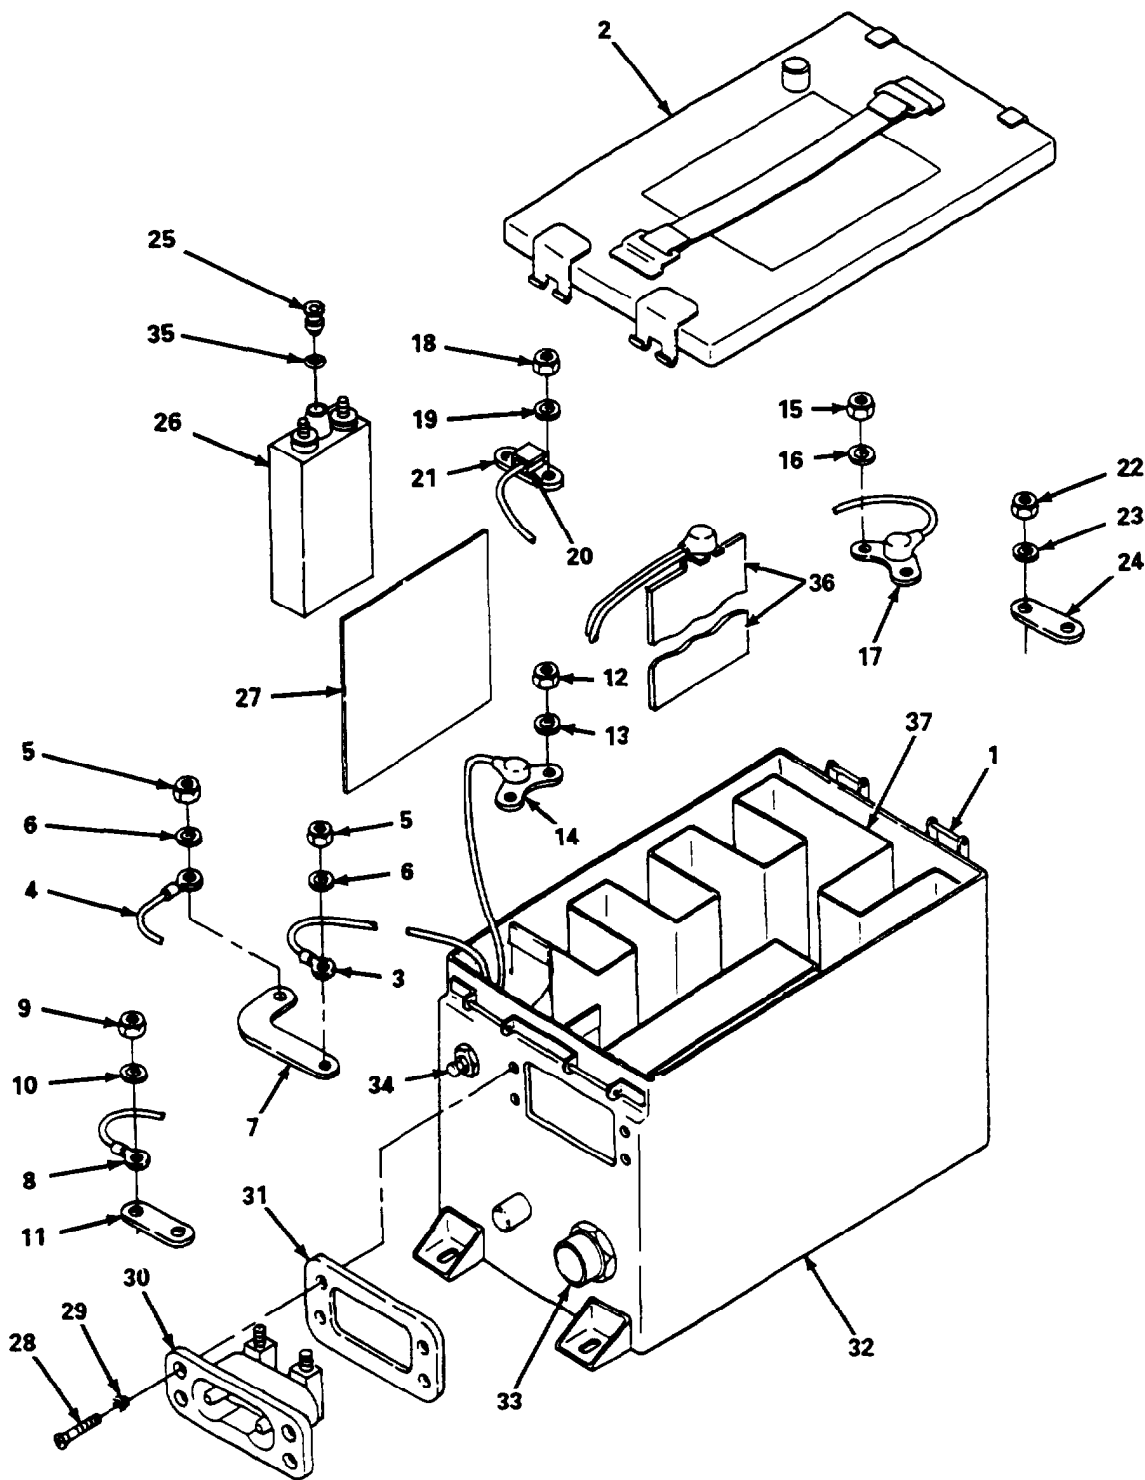

Figure 3-16. Battery BB-558/A Disassembly.
a. Disassembly/Reassembly (fig. 3-16).
- (1) Unsnap two latches (1) and open and remove cover (2).
- (2) Discharge battery (para 3-10).
- (1) Discharge battery (para 3-10).
- (2) To remove any of the above items, refer to the exploded view (fig. 3-16) and the appropriate sections of paragraph 3-21 a. For wiring harness repair, refer to subparagraph c, below.
- (3) Upon completion of repair, perform the test procedures contained in paragraph 3-21d, below.